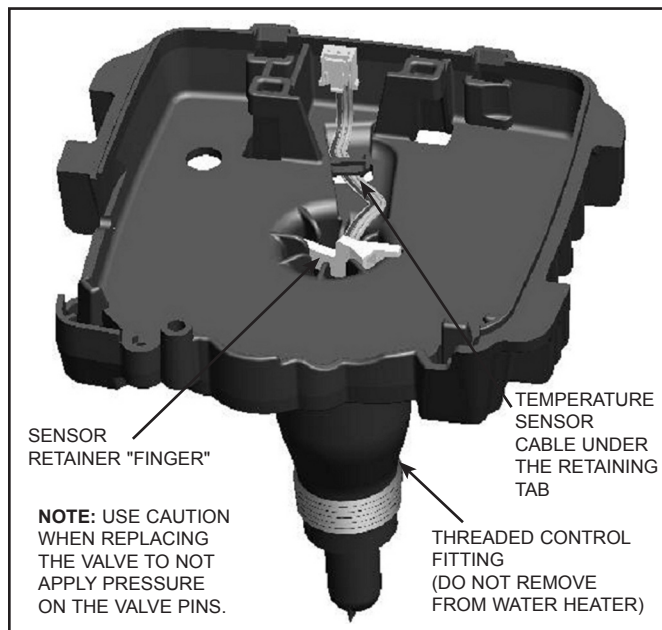

Figure 25. Temperature Sensor Retaining Finger
6. Use a screwdriver to pry under the sensor retainer finger to remove the temperature sensor and cable. See *Figure 25*.